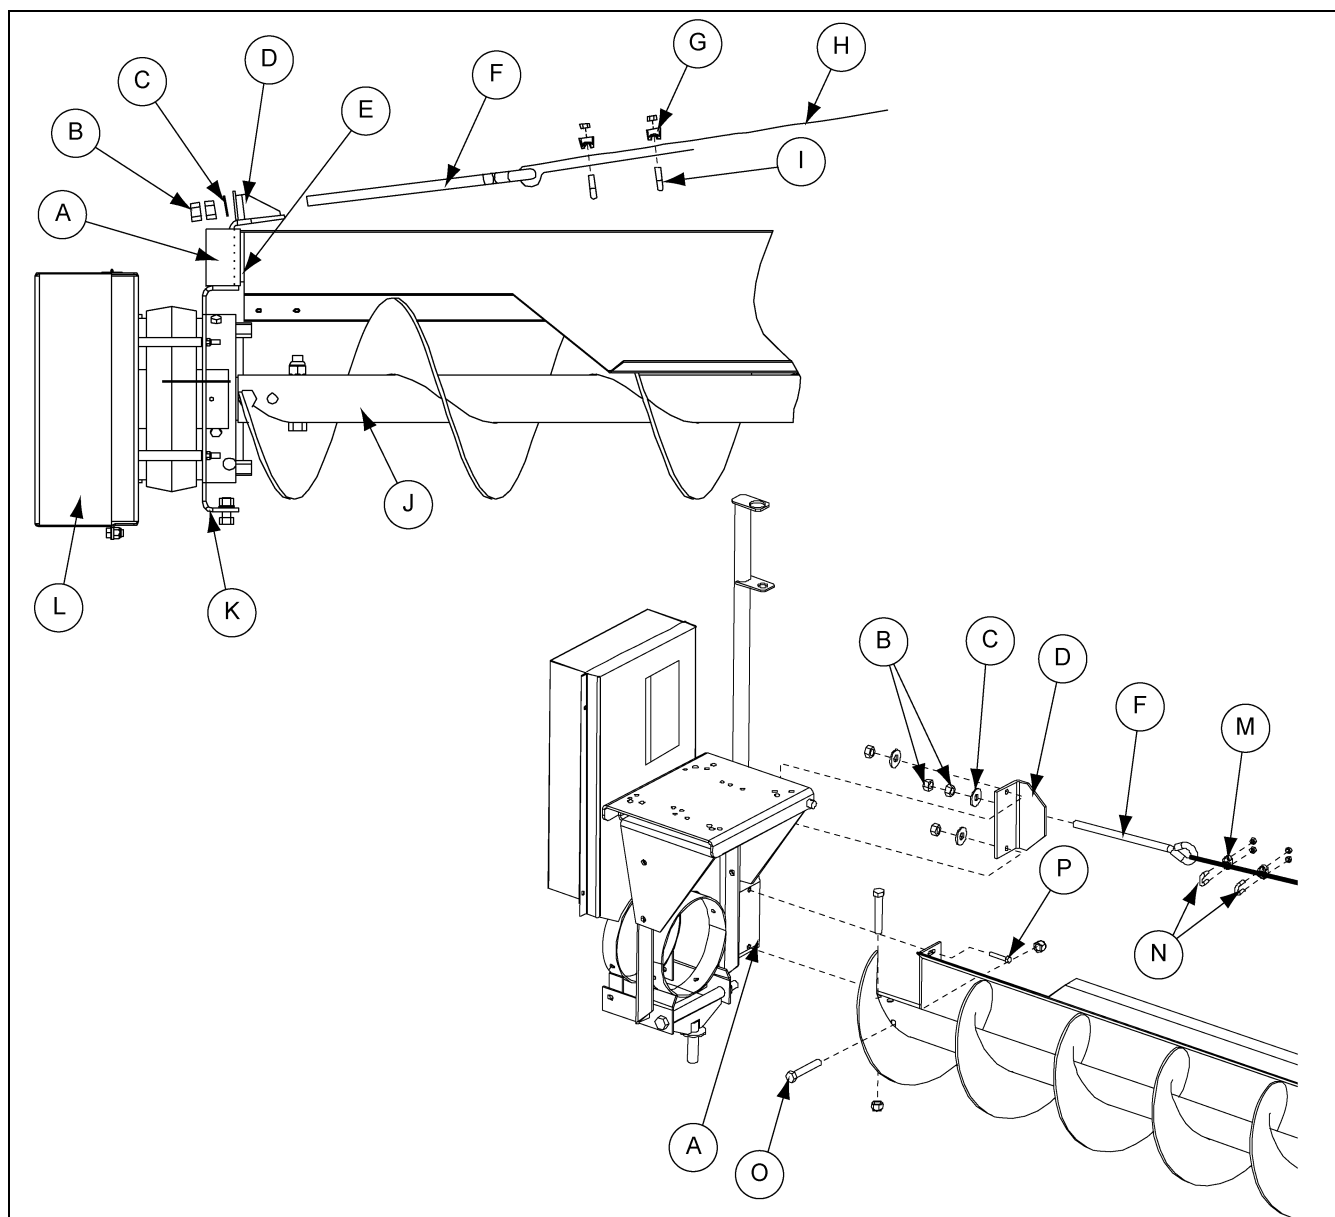

Figure 4N Truss Cable Take-Up Detail (As viewed from the top.)
NOTE: On larger units that use four (4) or more sections of flight (68' to 120' diameter bins) a cable truss is provided for the sweep back shields. On these units the truss cable take-up bracket must be attached to the back shield mounting bracket with the same bolts that hold the sweep back shield. The mounting bracket will be sandwiched between the cable bracket and the back shield. *(See Figure 4N on Page 27.)* Use two (2) 3/8" x 1-1/2" long hex head cap screws, flat washers, lock washers and nuts to fasten the take-up bracket and sweep back shield to the shield mount plate.
On units that use four (4) or more sections of flight, a cable is provided for the sweep back shields. A truss cable anchor will be attached to the bearing stand and shield joint of the last section. (See Figure 4N on Page 27.) Use the same 3/8" bolts to connect the sweep back shield, bracket, and truss cable anchor together.
1. Install eye bolt (F) through anchor on cable take-up bracket (D), using flat washer and two (2) 5/8" hex nuts. (See Figure 4N on Page 27.)
Secure the clamp U-bolts against the loose end of the cable. (See Figure 4N on Page 27.)
5. Attach truss cable (H) to eye bolt (F) using two (2) cable clamps (M). (See Figure 4N on Page 27.)
6. Using the eye bolt (F), tighten the truss cable (H) until it is reasonably snug.